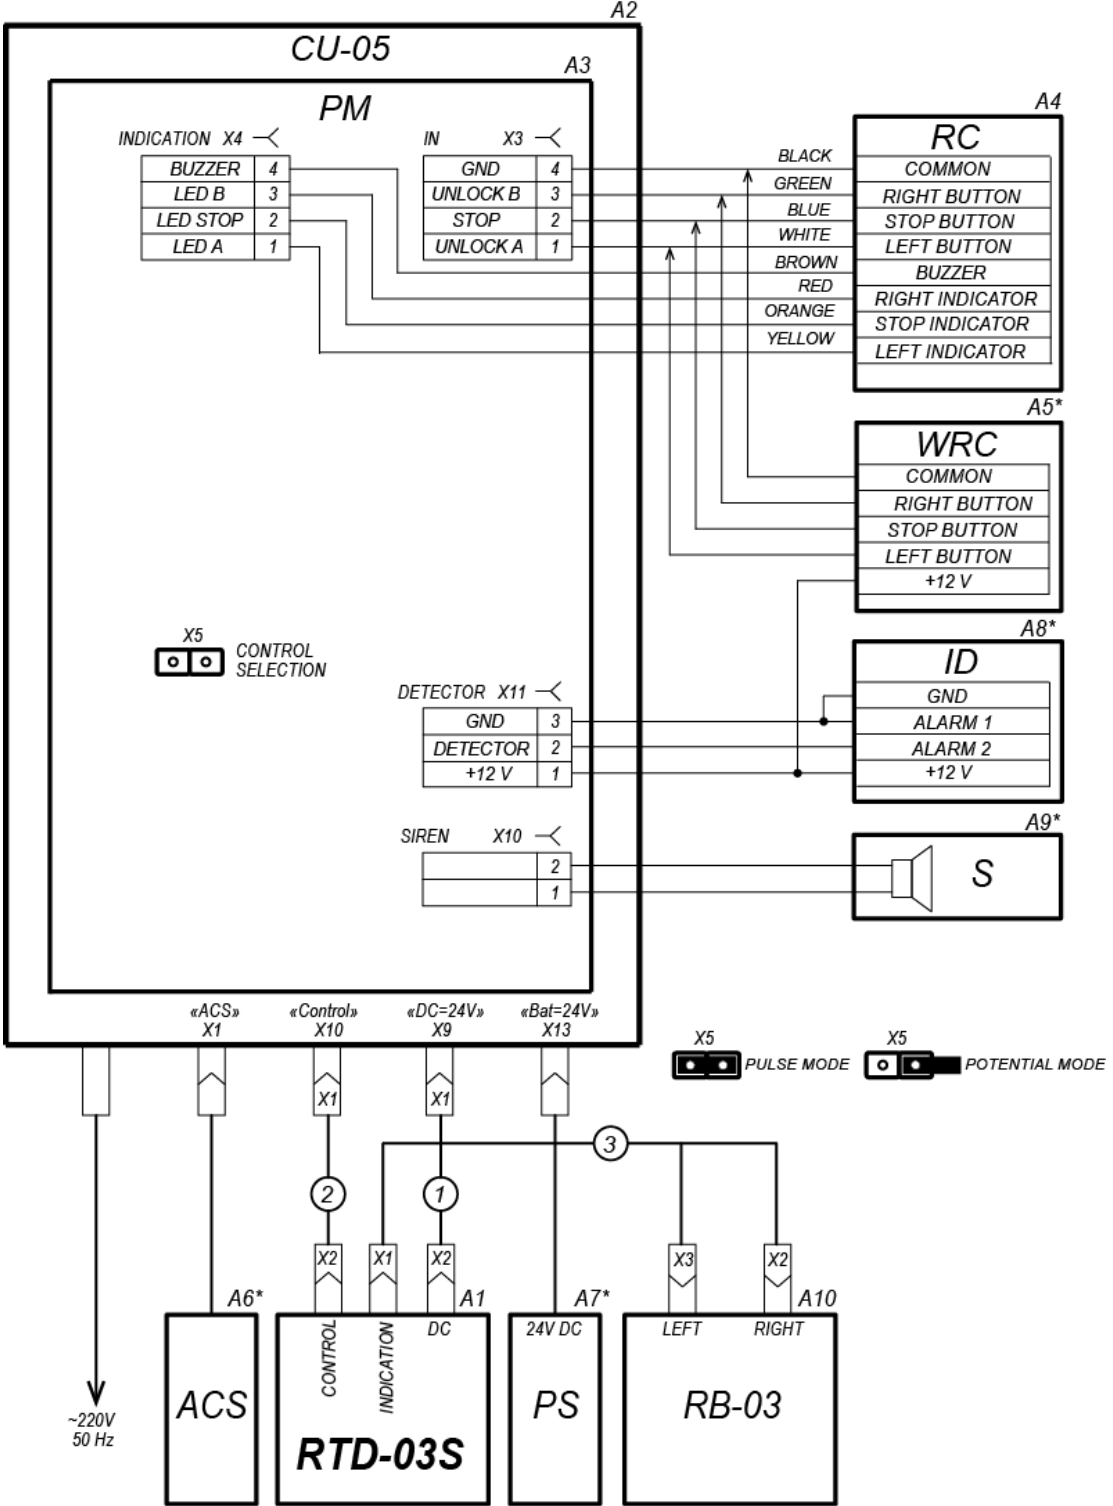

Figure 9. Electrical connection layout
4. Lay out the control cable (10) and the power cable (11) from the control unit (8) via electric raceways to the turnstile post.
5. Unpack the turnstile post from the shipping box and carefully place it on the prepared steady surface. Take the cable connectors block (16) out of the turnstile post with flange (2) (see Fig. 2). Connect the control cable (10) and the power cable (11) to the corresponding connectors of the cable connectors block (16), located inside the turnstile post with flange (2) according to the connections scheme (see Fig. 9). After you carry out the connections, install the cable
- control cable (10) to the “Control” connector;
- power cable (11) to the “DC=24V” connector;
- put remote control cable (13) through its cable inlet inside the control unit and connect it to the X3 and X4 connectors on the processor module as per Fig. 9.
- Disconnect the power cable (12) from the mains;
- Swap positions of the following RC cables inside the control unit, on the connectors X3 and X4 of the processor module (Fig. 9) white with green and yellow with red cable, that is connect the cables as follows: